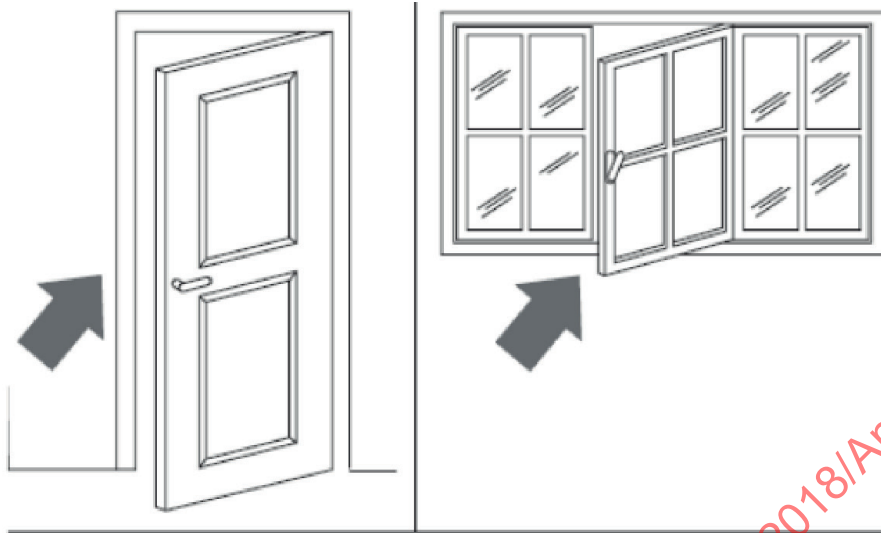

Figure G.1 — Close doors and windows
- Close windows and doors in the room to be air conditioned (see Figure G.1).